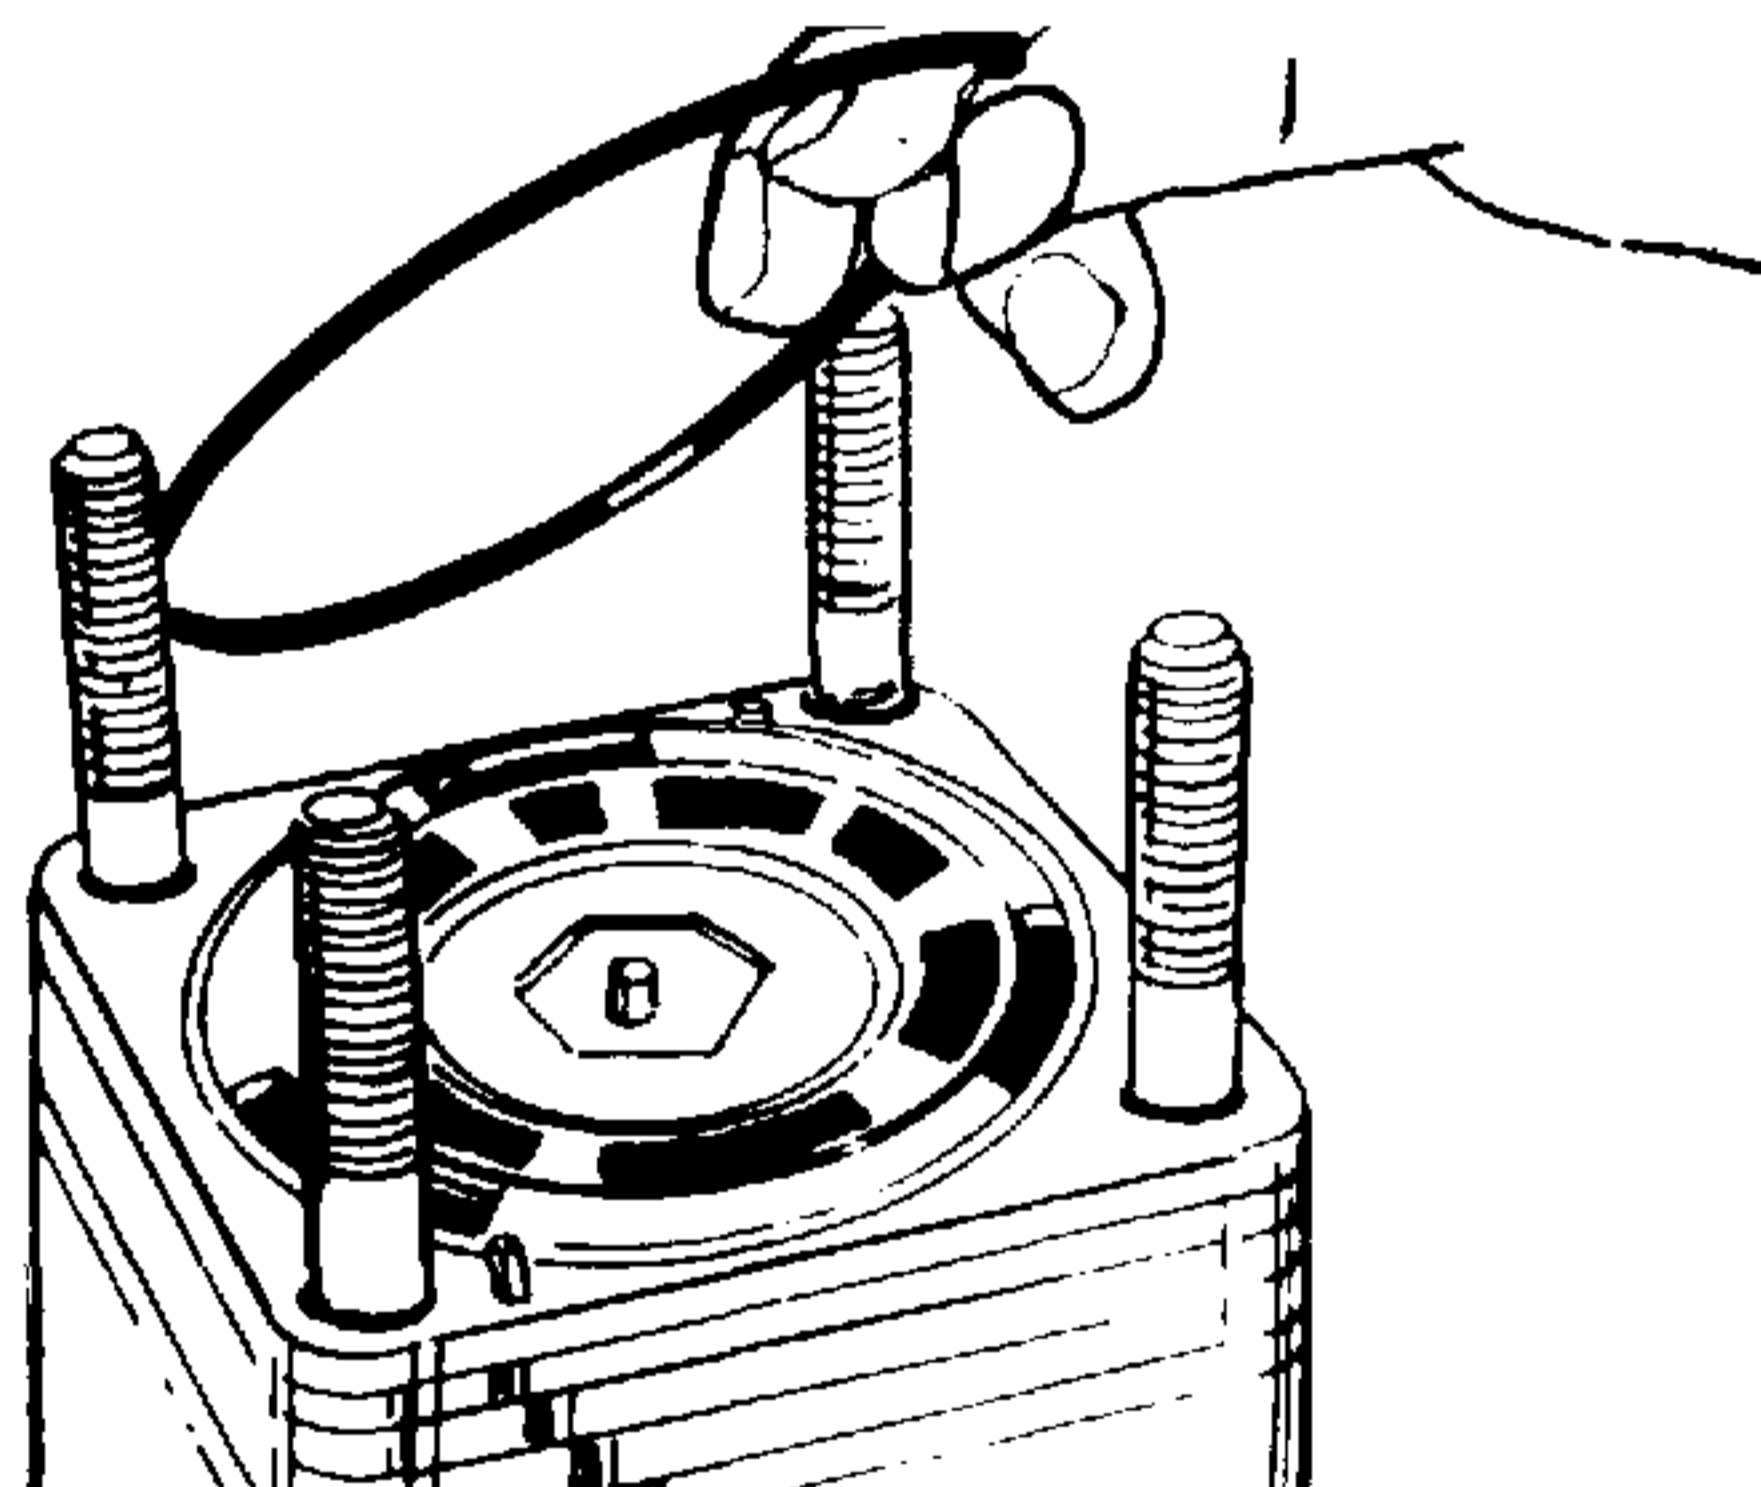

Figure 4-84. Installing Seal Ring.
36. Apply clean grease to seal ring (4, Figure 4-1). Install seal ring in the valve and ring assembly (12). See Figure 4-84.